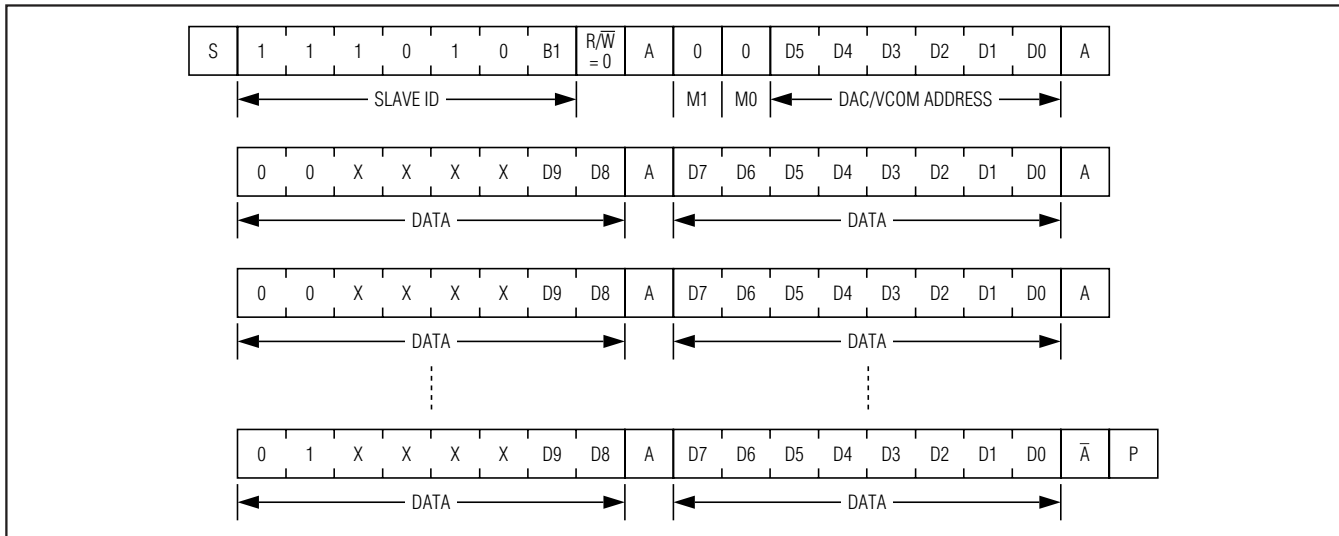

Figure 11. Multiple MTP Programming
Figure 11 shows how to program multiple MTP registers in one communication transition. Similar to programming the volatile memory, the first 2 bytes of data correspond to the DAC/VCOM address specified by the master on the previous byte and the following 2 bytes of data correspond to the next address and so on. In this configuration all the MTP registers are programmed at the same time following the LSB of the last set of data bytes. (The last set of data bytes is different than the previous bytes as it is bits 15 and 14.) If for some reason the master issues a STOP condition before sending the last 2 bytes of the data with appropriate values of bits 15 and 14 (01), then none of the MTP registers are updated.